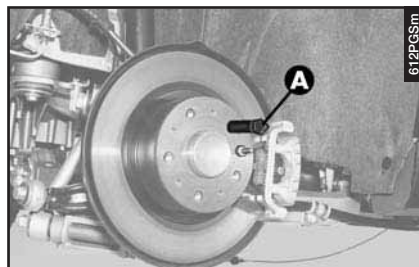

fig. 18
- Screw the centering pin (**A-fig. 18**) in one of the fastening bolt holes.